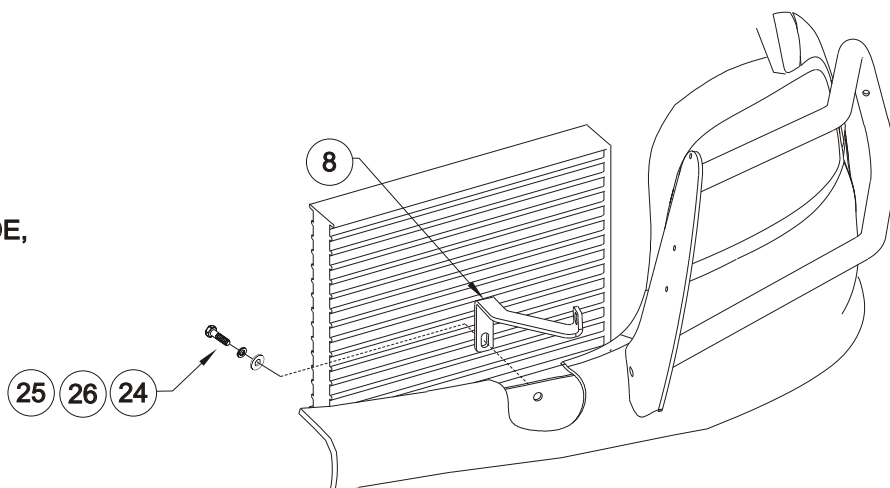

FIGURE 2
- STEP 5. With hood open, locate the top bumper bracket bolt. Remove factory bolt and attach top bracket using 10MM fasteners as shown. Leave loose. **NOTE:** Close hood carefully to insure that there is proper clearance between bottom of grille and top brackets. **SEE FIGURE 2.**